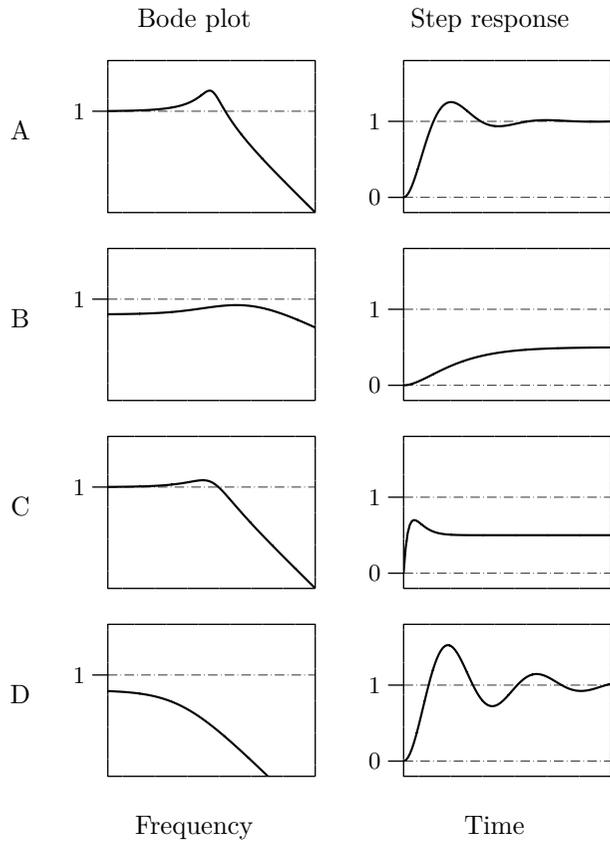

Figure 4.10a. All comparable diagrams have equal scaling.
4.10 Figure 4.10a shows the Bode gain plots and step responses of four different systems, in no particular order. Identify the pair of plots that belongs to each system. That is, for each Bode gain plot (amplitude curve), find the corresponding step response. Motivate your answer by pointing out a set of unique features for each system.